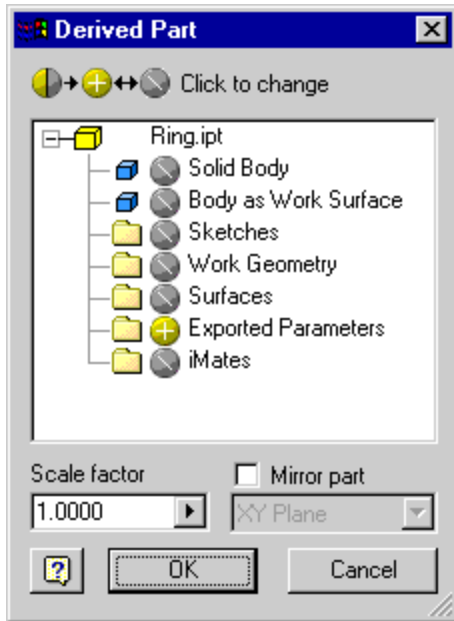

Figure 23: Derived Part dialog box.
5. Change to the Features panel bar and click the Derived Component tool. Select Ring.ipt and click Open. You can derive exported parameters from the selected part. Click OK to accept the default setting, derive Exported Parameters only (see Figure 23).